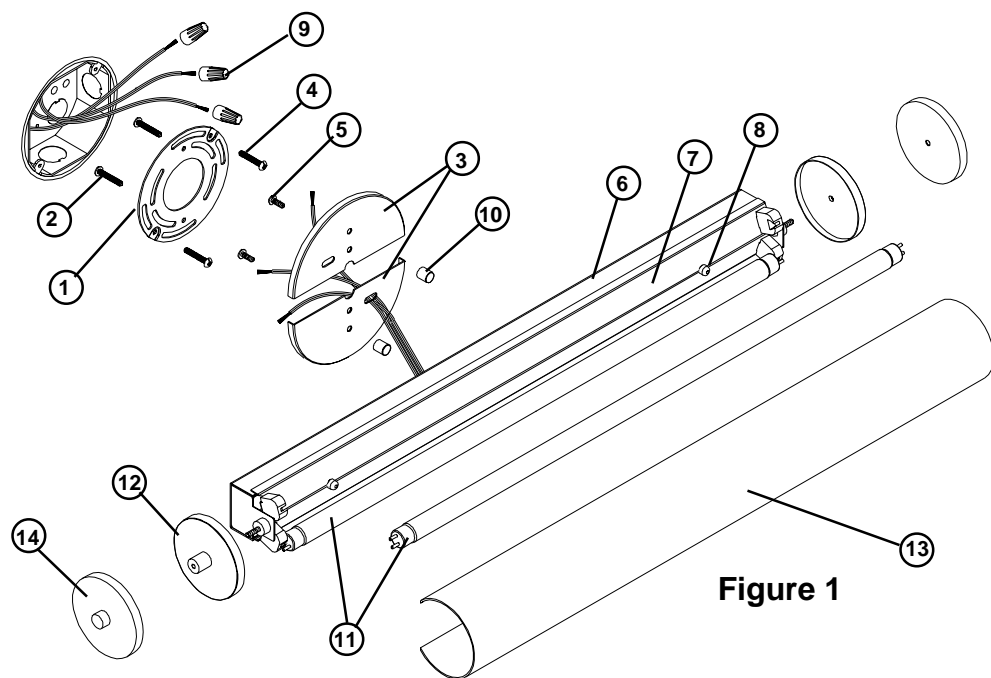

Figure 1
**1. Remove fixture components and parts pack(s).** Check that all parts are included. **See Figure 1.** Unscrew End Cap from one end of fixture and slide Diffuser off. Uninstall both lamps (see step 7) and remove packing material.
1. Saque los componentes del luminario y paquete(s) de piezas. Compruebe que todas las piezas estén incluidas. **Vea Fig. 1.**